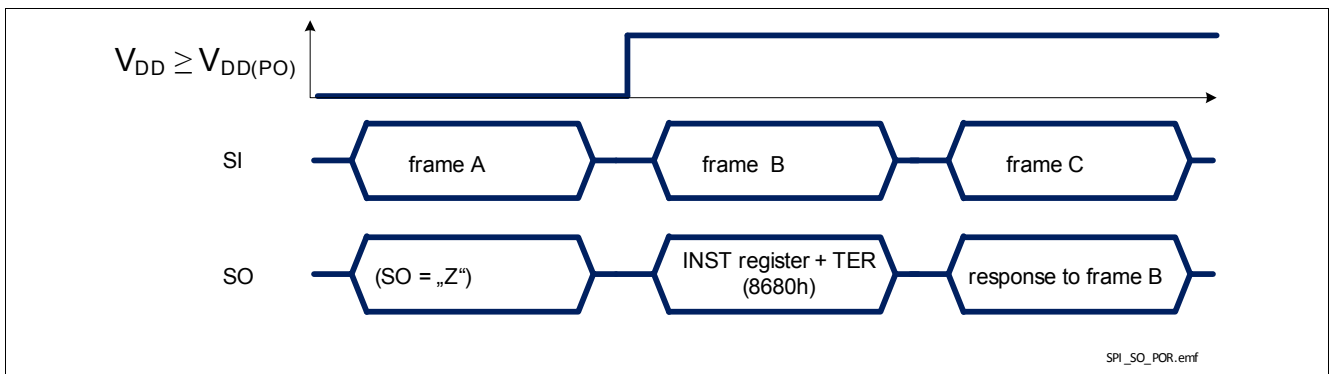

Figure 30 TLE75004-ELD response after coming out of Power-On reset at  $V_{DD}$
- when TLE75004-ELD logic supply comes out of Power-On reset condition or after a Software Reset, as shown in Figure 30